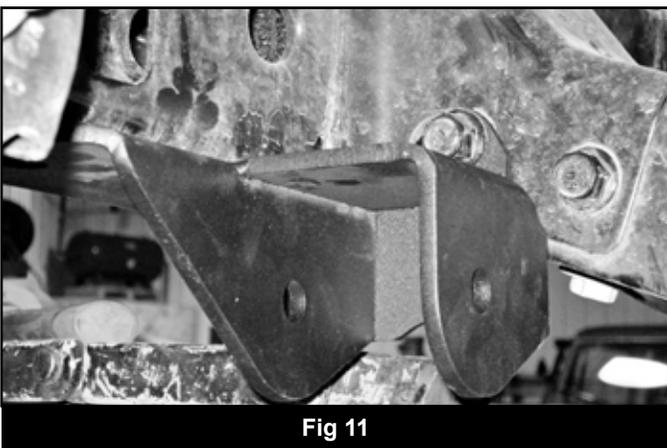

Fig 11
25. Position the provided front LCA mount (01983B-driv, 01984B-pass) up to the frame rail and against the front face of the transmission crossmember (Fig 11). Loosely fasten the bracket to the frame with the OE skid plate bolt and to the crossmember with the OE crossmember hardware.